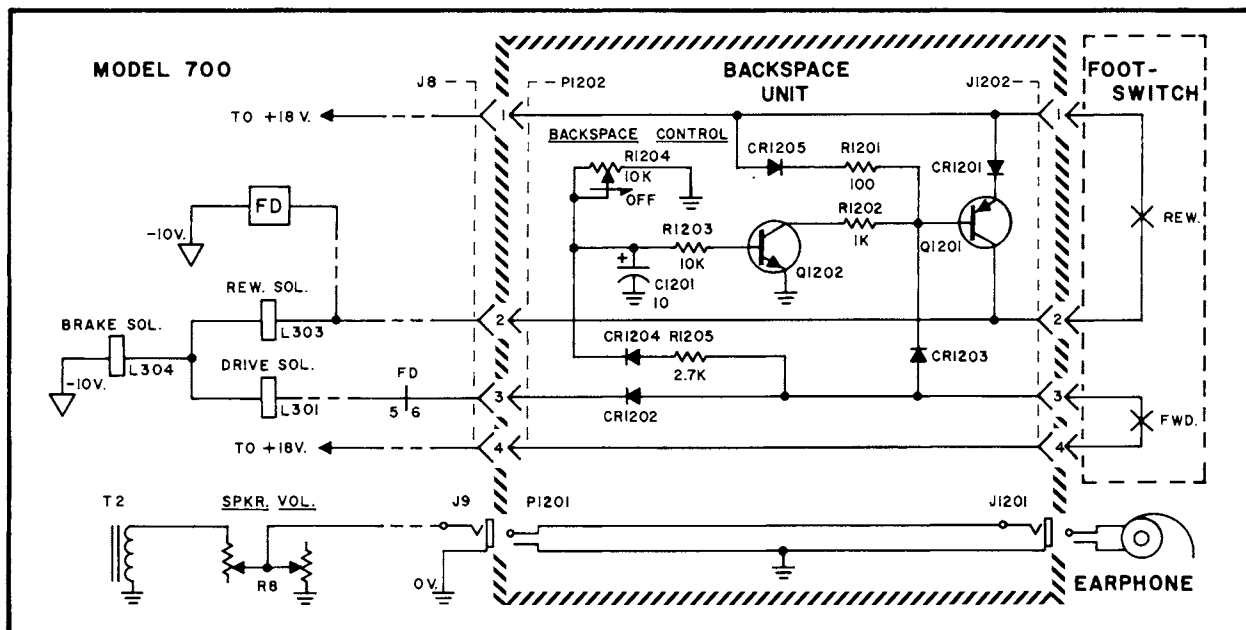

FIGURE 34 BACKSPACE UNIT SCHEMATIC
2. CIRCUIT DESCRIPTION (See fig. 34):